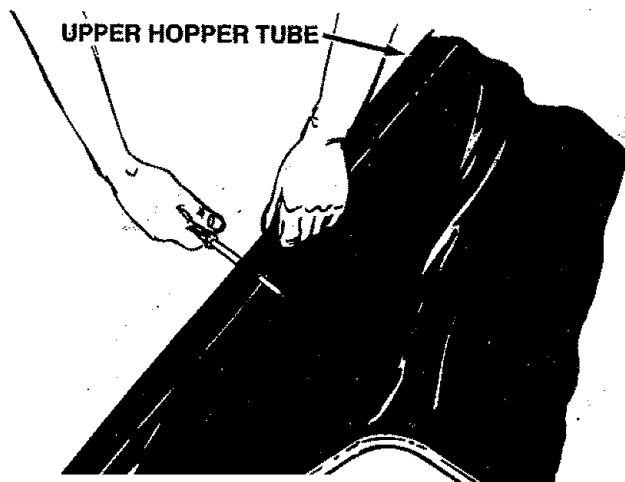

FIGURE 17
- Locate (by touch) the hole in each upper hopper tube, approximately midway along the side of the bag. Pierce holes through the stitched bag flaps, aligned with the holes in both hopper tubes. See figure 17.